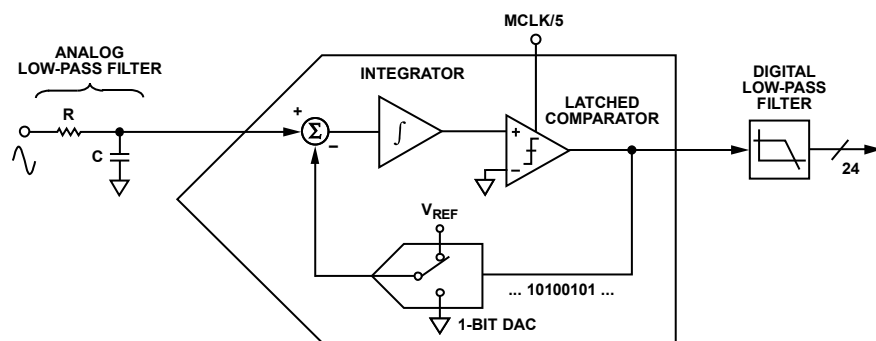
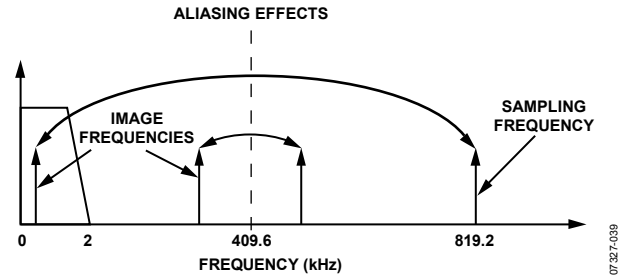

Figure 38. First-Order Σ - Δ ADC
Figure 39. ADC and Signal Processing in Current Channel Outline Dimensions
For simplicity, the block diagram in Figure 38 shows a first-order Σ - Δ ADC. The converter is made up of the Σ - Δ modulator and the digital low-pass filter.
Figure 38 also shows an analog low-pass filter (RC) on the input to the modulator. This filter is present to prevent aliasing, an artifact of all sampled systems. Aliasing means that frequency components in the input signal to the ADC, which are higher than half the sampling rate of the ADC, appear in the sampled signal at a frequency below half the sampling rate. Figure 39 illustrates the effect. Frequency components (the black arrows) above half the sampling frequency (also known as the Nyquist frequency, that is, 409.6 kHz) are imaged or folded back down below 409.6 kHz. This happens with all ADCs regardless of the architecture. In the example shown in Figure 39, only frequencies near the sampling frequency (819.2 kHz) move into the band of interest for metering (40 Hz to 2 kHz). This allows the use of a very simple low-pass filter (LPF) to attenuate high frequency (near 819.2 kHz) noise and prevents distortion in the band of interest.
For conventional current sensors, a simple RC filter (single-pole LPF) with a corner frequency of 10 kHz produces an attenuation of approximately 40 dB at 819.2 kHz (see Figure 39). The 20 dB per decade attenuation is usually sufficient to eliminate the effects of aliasing for conventional current sensors. However, for a di/dt sensor such as a Rogowski coil, the sensor has a 20 dB per decade gain. This neutralizes the –20 dB per decade attenuation produced by one simple LPF. Therefore, when using a di/dt sensor, care should be taken to offset the 20 dB per decade gain. One simple approach is to cascade two RC filters to produce the –40 dB per decade attenuation needed.